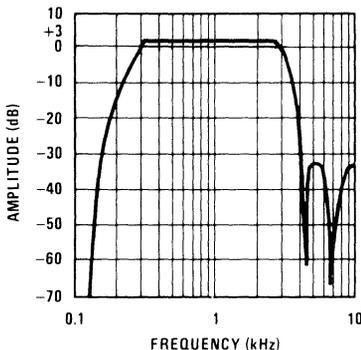

FIGURE 1A. TRANSMIT FILTER STAGE
The process of converting filtered voice information into a digitized pulse train format begins with sampling the voice signal at uniform intervals. These intervals are determined by the Nyquist Sampling Theorem, which simply states that any signal may be completely reconstructed from its representative sampling if it is sampled at least twice the maximum frequency of interest. The telephone system, being a worldwide standard 8kHz sampling system, satisfies Nyquist, as all voice signals are band-limited to 4kHz. When the voice waveform is sampled, a train of short pulses is produced, each representing the amplitude of the waveform at the specific instant of sampling. This process is called Pulse Amplitude Modulation (PAM). The envelope of the PAM samples replicate the original waveform. Figures 1A thru 1D illustrate representative PAM samples for up to 24(30) individual voice channels in a μ -Law (A-Law) telephone system.
The transmit and receive filter responses are shown in Figures 1A and 1B. The transfer characteristic of the CVSD is illustrated in Figure 2. A suggested circuit configuration is shown in Figure 3.